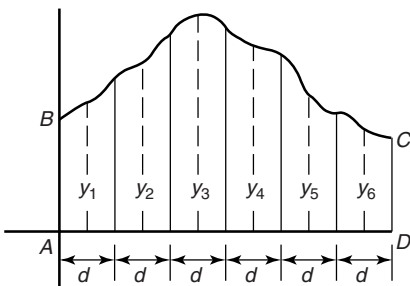

Figure 14.3
To determine the area  $ABCD$  of Figure 14.3 using the mid-ordinate rule:
- (ii) Erect ordinates in the middle of each interval (shown by broken lines in Figure 14.3)